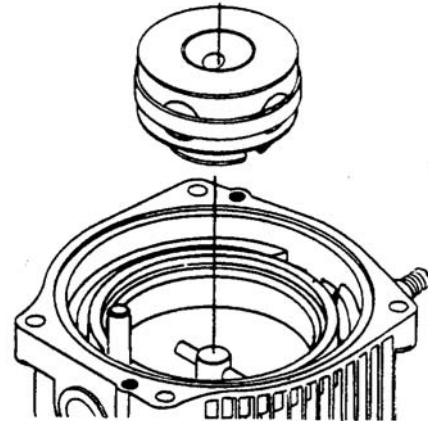

Figure 6-133. Pump Rotor Installation
24. Install pump rotor by aligning the slot in the pump rotor with the input shaft cross pin. See Figure 6-133.